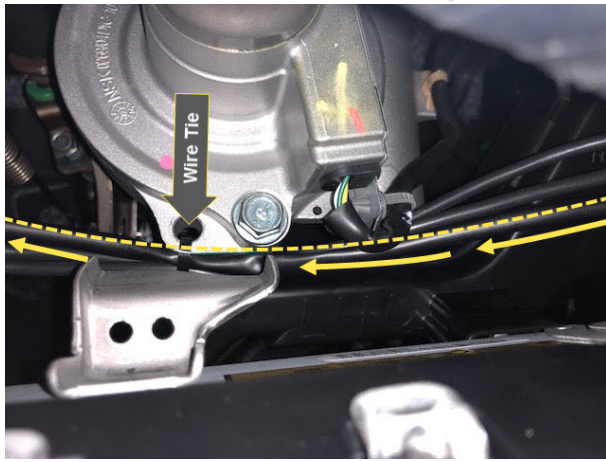

Figure 32
42. Route passenger side puddle light and foot-well harnesses above drivers knee air bag as shown in Figures 31. Secure the harnesses to the steering column eyelet hole as shown. See Figure 32.